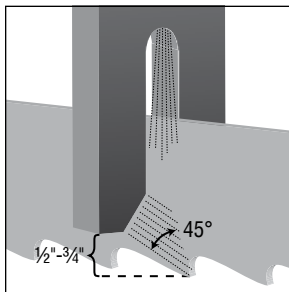

Figure 3.
2. Make sure the nozzle is  $\frac{1}{2}$ " to  $\frac{3}{4}$ " above the bottom of the blade; the lubricant stream should form a  $45^\circ$  angle with the cutting edge (see Fig. 3). Test the stream position with a piece of paper (see Step 2 of Operations, page 7).